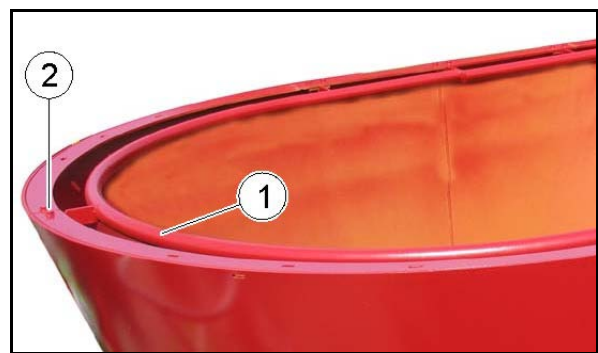

Fig. 25
- an inner overflow ring (Fig. 25) for low overhead clearances, screwed below the top edge of the container.